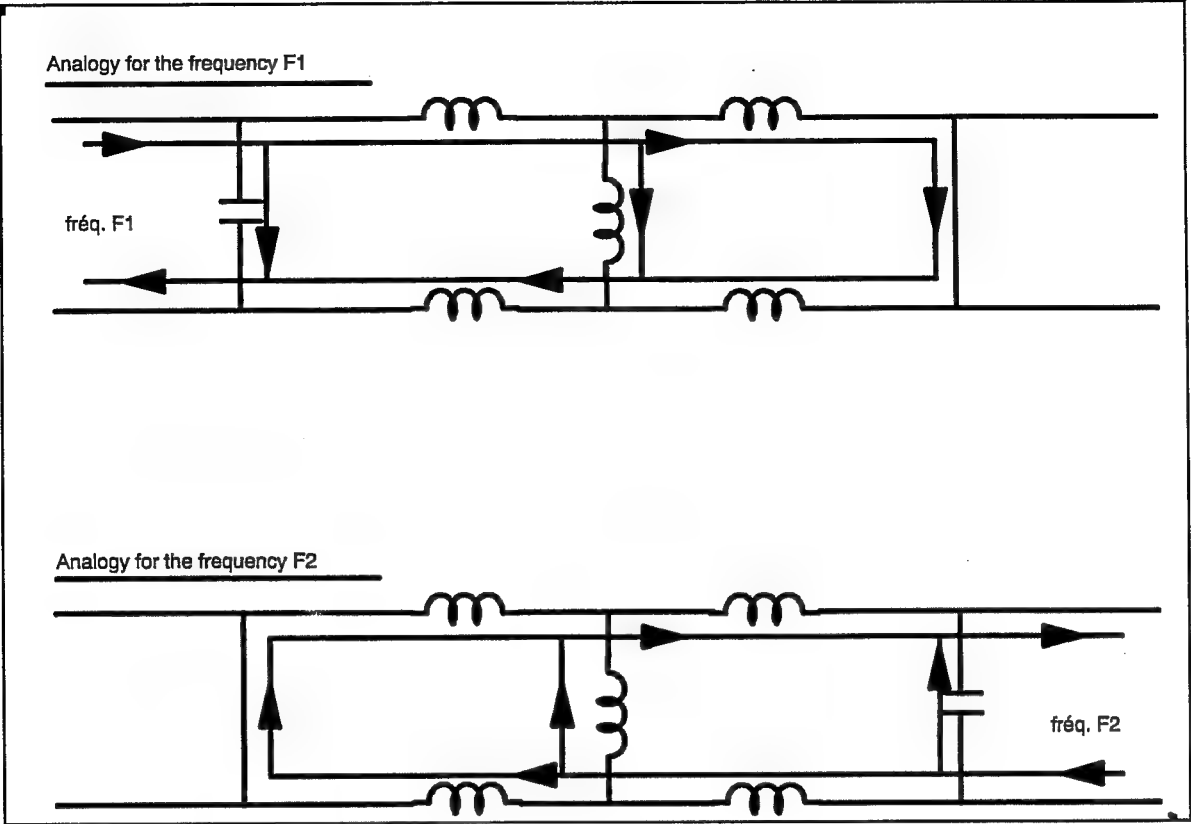

Figure 16 - electrical analogy at frequencies F1 and F2
4.4.4 Electrical analogy (fig.16)